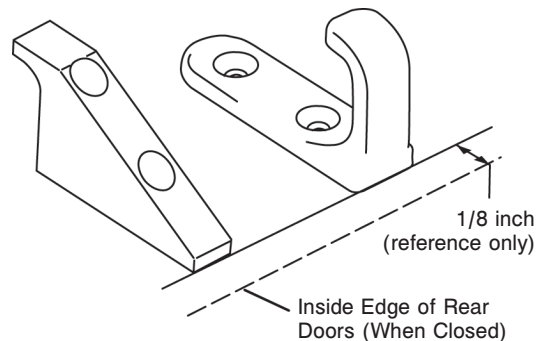

Figure 11 - Safety Hook Placement
3. Center the safety hook on the cot safety bar, with the hook facing the front of the vehicle (Figure 11). For best results, the face of the safety hook which engages the safety bar should be at least 3-3/4" from the leading edge of the door sill (Figure 11 ).